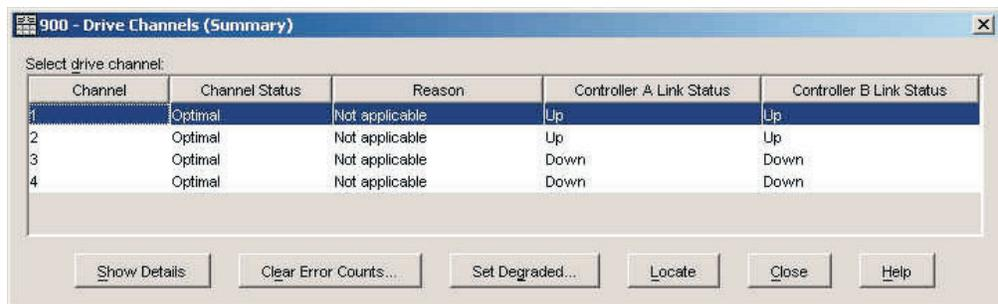

Figure 62. Drive Channels (Summary) window
10. Open the Storage Manager Drive Channels (Summary) window, as shown in Figure 62 (from the Subsystem Management window, click **Advanced > Troubleshooting > Drive Channels**). Clear the error counts; then wait 15 minutes and view the error counts in the upgraded drive loop. If there are none or very few errors, proceed to the next step. Otherwise, wait another 15 minutes and then view the error counts again. If the errors continue to increase, call IBM support for help.